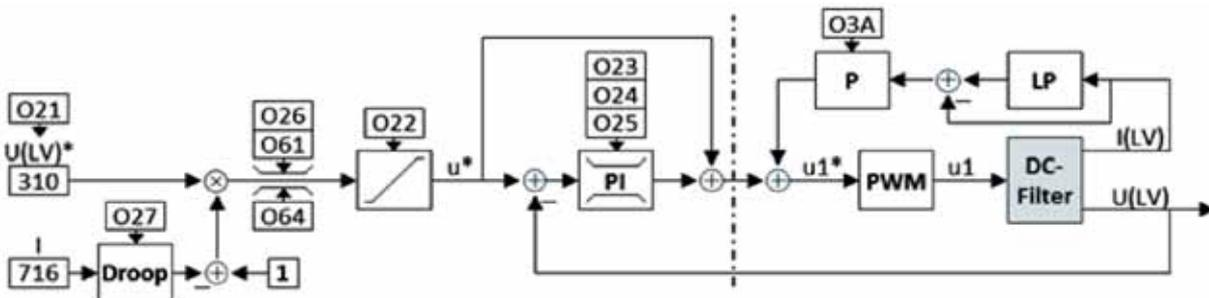

Fig. 23 Block diagram of DCU low side DC-voltage controller U (LV) - Basic U mode.
5.1.1 DC low side DC-voltage controller U (LV) - Basic U mode
Fig. 23 is shown the block diagram of the DCU low side DC-voltage U (LV) controller in Basic U mode.